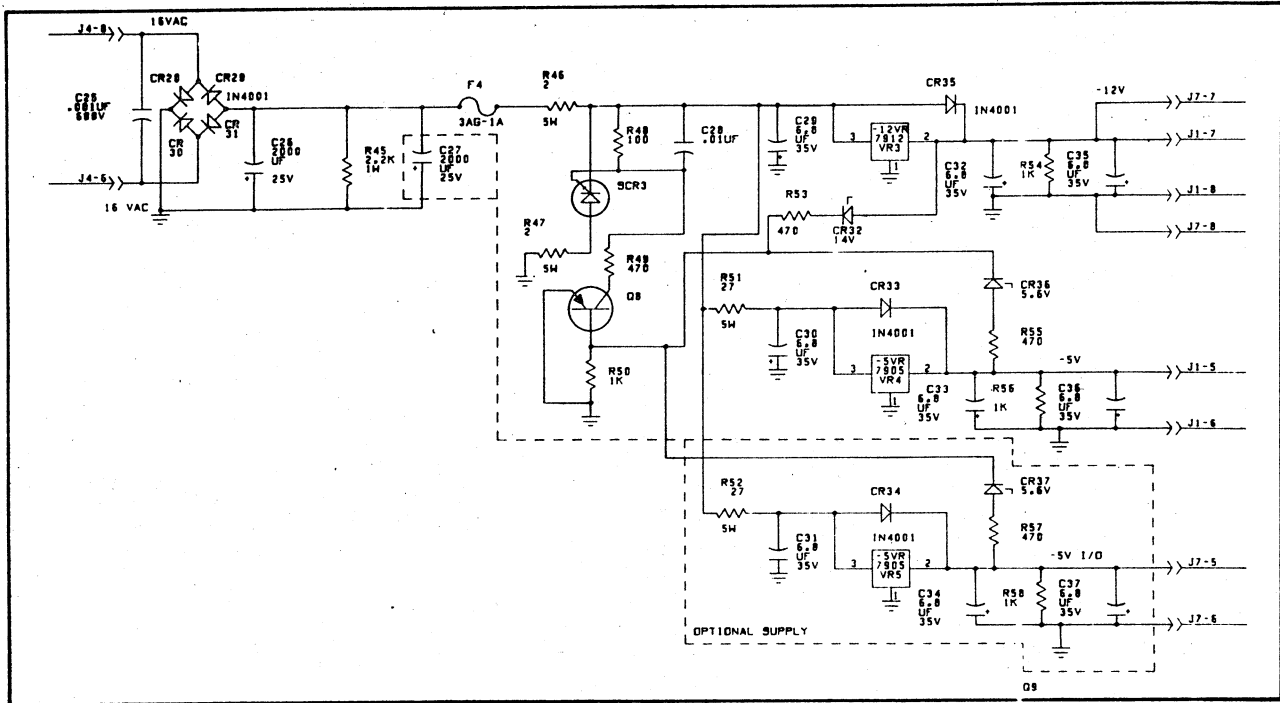

FIGURE 3-4. -5 AND -12 VOLT POWER SUPPLY (1PC1)
-5 and -12 Volt Power Supply (Figure 3-4)